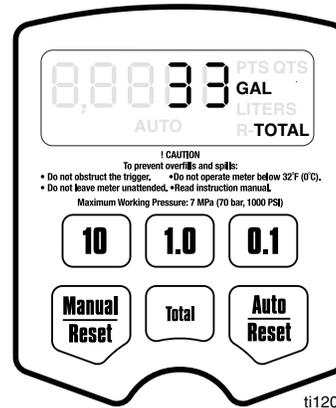

FIG. 31
*If the unit of measurement is gallons, quarts, or pints, the resettable total is displayed in gallons, (FIG. 31). If the unit of measurement is liters, the resettable total is displayed in liters.*